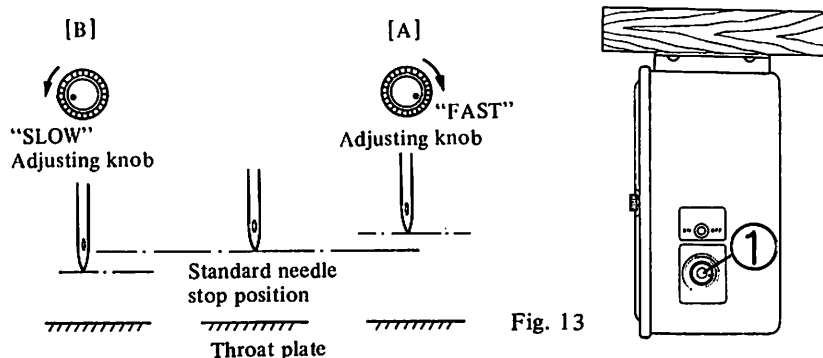

Fig. 13
7. Adjusting the needle stop position after thread trimming (Fig.13)